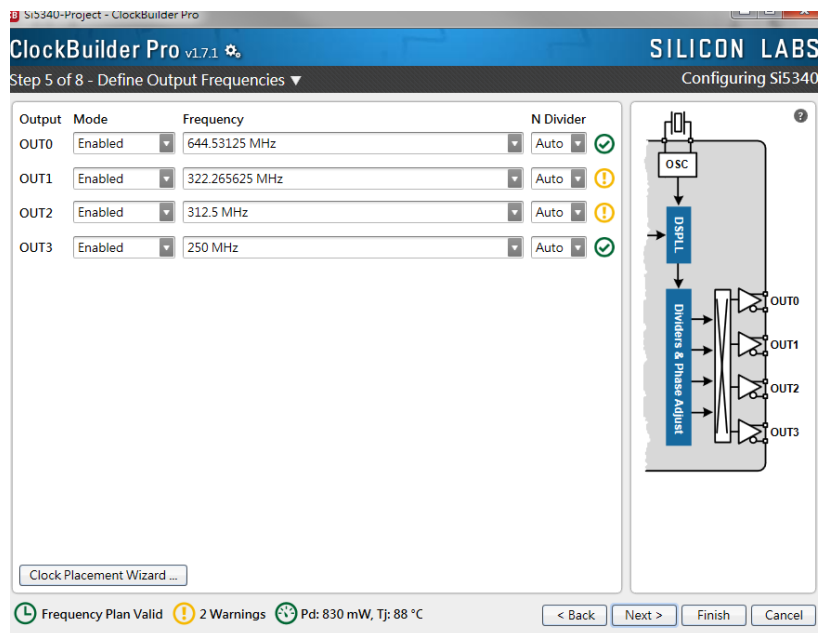

Figure 5-4 Define Output Clock Frequencies on ClockBuilder Pro Wizard
2. After the installation, select Si5340, and configure the input frequency and output frequency as shown in Figure 5-4.